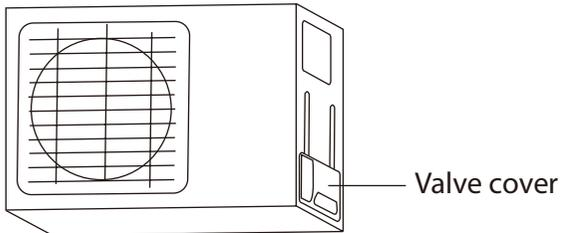

Fig. 2.9
1. Unscrew the cover from the packed valve on the side of the outdoor unit. (See Fig. 2.9)